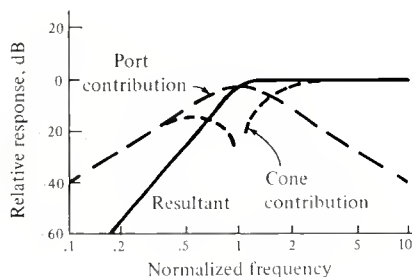

Figure 1. Relative Output from Cone and Port in a Ported System.
• Ported, or bass reflex speaker systems have been around since the earliest days of the dynamic loudspeaker. Their designs were more often "cut and try" than rational, and bad "boomy" systems were more common than good ones. The main advantage of a properly-ported system over a sealed one is the reduction of distortion at low frequencies. This is shown in FIGURE 1.